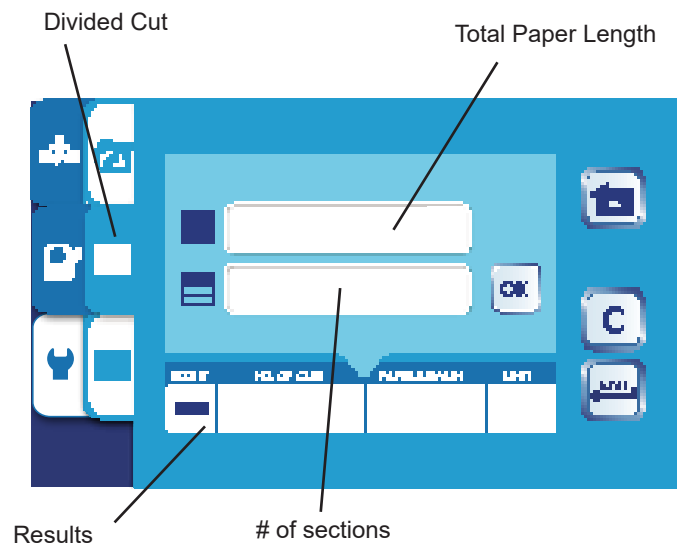

Fig. 8
If all cuts on a sheet are the same length (i.e. no border or full bleed and no gutter between cuts), simply program a Divided Cut (Fig. 8).
2. Press the divide cut tab  to access the divided cut program screen (Fig. 8).
2. Press the advanced divide cut tab  to access the advanced divided cut program screen (Fig. 8).